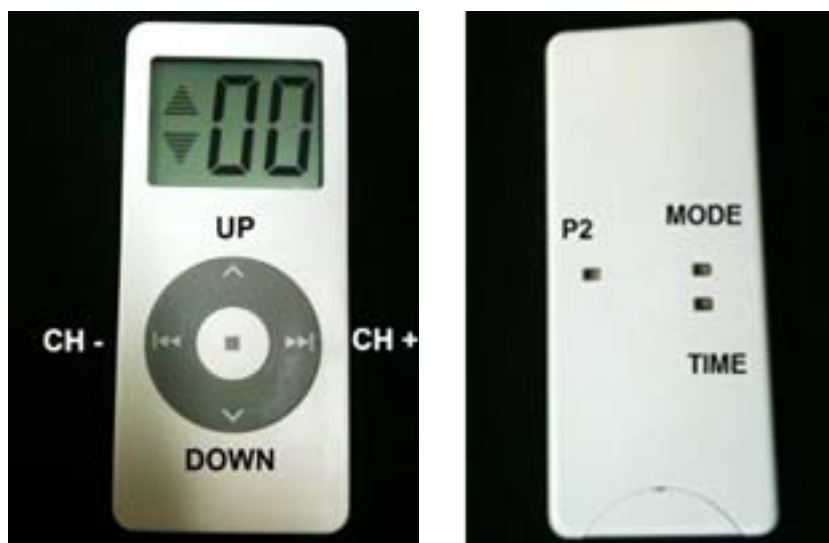

FIGURE 9
- a) Press twice the P2 button (located on the back of the Hand Held Remote). A beep will be emitted by the Remote Motor (See Figure 9).
- b) Press the UP button on the Hand Held Remote Control. Verify that the motor is turning in the correct direction. If the motor turns in the opposite direction, repeat “a” and “b”. Finish the process by pressing the DOWN button (See Figure 9).
4. Press the P2 button twice (located on the back of the Hand Held Remote) (See Figure 9).